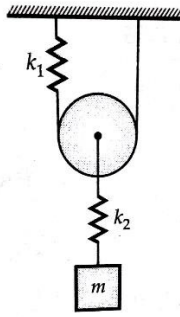

Figure 2.2
- (c) Determine the natural frequency of the mass $m = 15$ Kg as shown in figure 2.2. Assuming that the cords do not stretch and slide over the pulley rim. Assume that the pulley has no mass. Take $K_1 = 8000$ N/m and $K_2 = 6000$ N/m. **07**